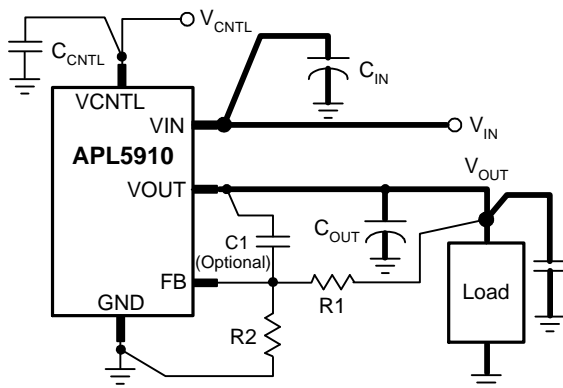

Figure 1
Layout Consideration (See figure 1)
6. Large current paths, shown by bold lines on the figure 1, must have wide tracks.